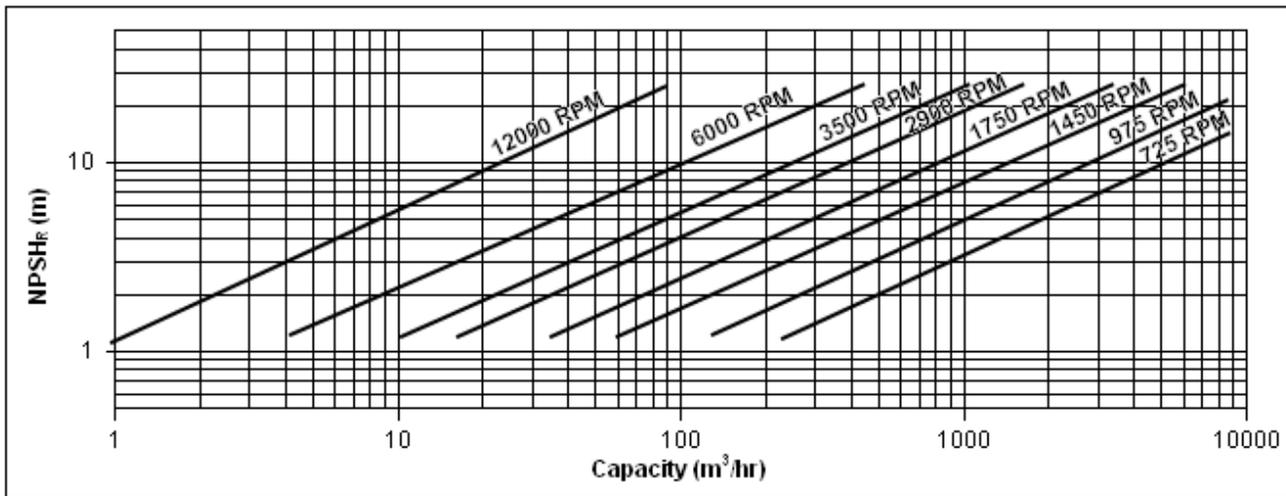

Figure 1 – NPSH required estimation graph
$NPSH_R$ can be taken from pump characteristic curve which is usually given by vendor in ending stage of project so having $NPSH_R$ value in early stage will enable process engineer to finalize pump selection and suction piping configuration. When pumping liquid has high vapor pressure or it is in bubble point condition, having a good estimation of $NPSH_R$ is really essential to complete the pump hydraulic calculation and to determine the height of suction vessel from grade. Figure 1 can be used with very good degree of estimation for $NPSH_R$.
- Use several smaller pumps. Lower capacity pumps can operate with higher speed and consequently and lower NPSH_R. Required NPSH for pump working at 200m³/hr and 1450 RPM from figure 1 is 2.6m. This pump can be replaced by two 100 m³/hr pumps at the same speed with 1.7m of NPSH_R. Three 50% capacity pumps can be cheaper than two 100% large pump.